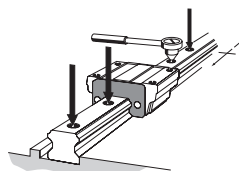

Fig.6 Fully Fastening the Mounting Bolts
(4) Tighten the mounting bolts at the designated torque using a torque wrench. (See Fig.6, and Table1 and Table2 on A-350.)